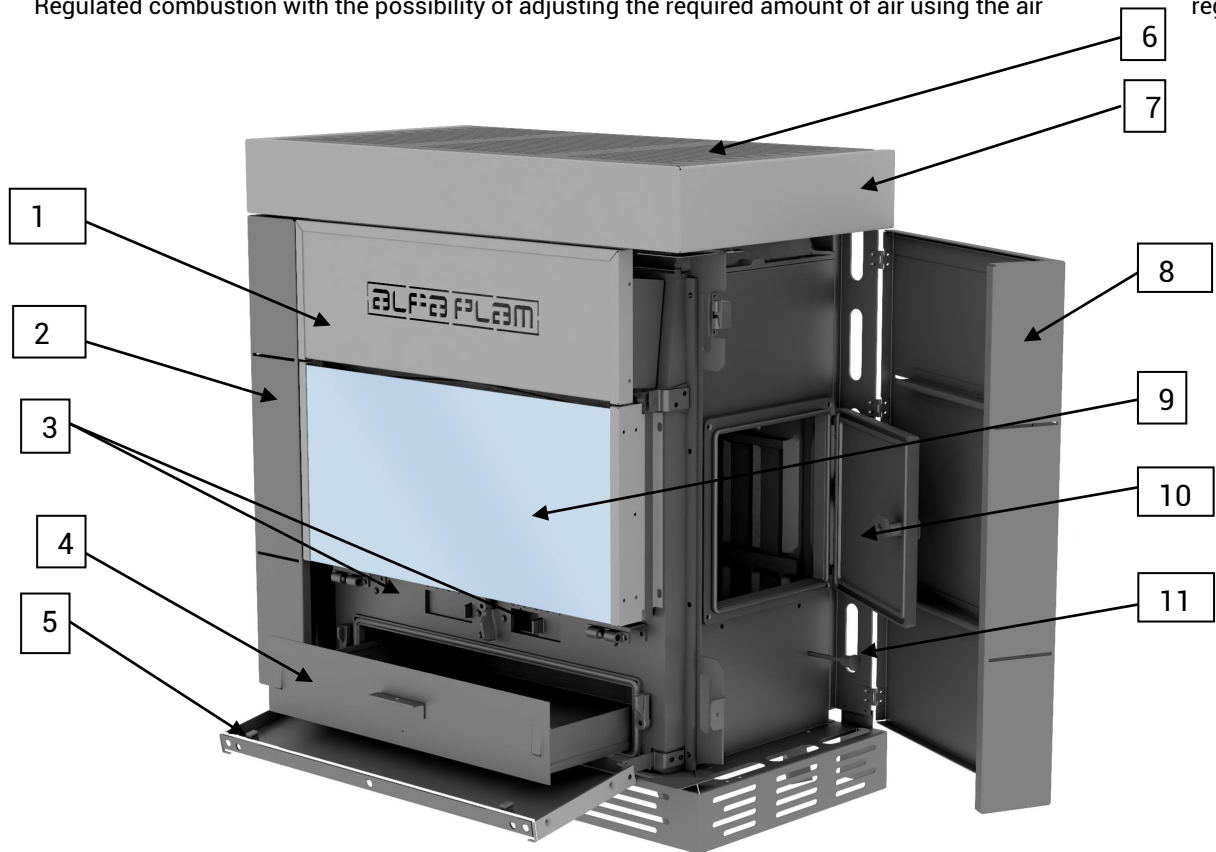
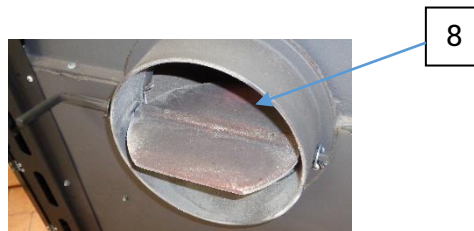

Figure 1
Fig. 4
Under the ashtray mask (Fig. 1, position 1) there are two air regulators to regulate the required amount of combustion air.
- Open the primary air regulator all the way (Fig. 1, position 2)
Before firing the chimney, the throttle shaft should be turned into a horizontal position (Figure 4, position 8). Firing of the furnace is done with paper and fine chopped wood (when the regulators on the front of the furnace are opened all the way) positioned on the grid. Positioning the paper and fine wood, as well as the firewood, is done through the opening on the right lateral side, given that the lateral doors are already opened (Figure 1, position 6).
When the basic glow is formed, you need to place the thicker wood close to the right door and set up the air regulators (Figure 1, position 1), as well as the airflow regulator (Figure 4, position 8). In order to use the furnace economically, you should load it with wood up to the front grill grid. By adjusting the air regulators, you regulate the combustion speed and the temperature in the room by placing the throttle to the 0, 1, 2, 3, 4 – marks on the front side of the furnace. In general, for the furnace firing, you should use the door on the right lateral side of the furnace.